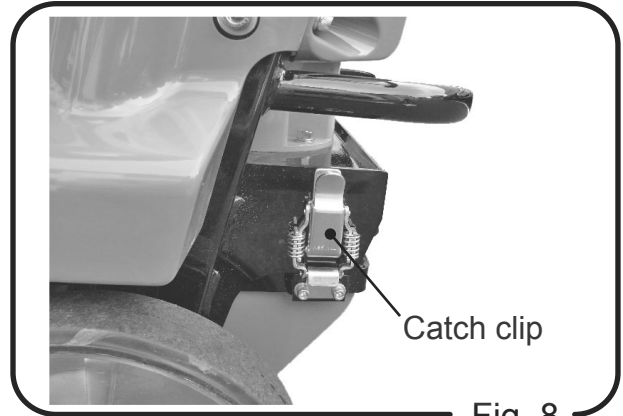
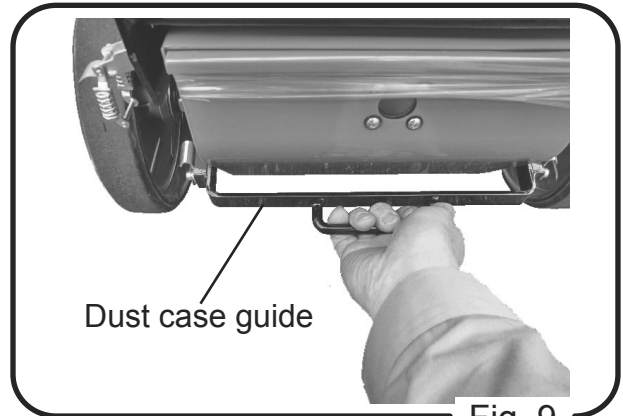

Fig. 8
Fig. 9
- B. Remove the catch clips at both sides and lower the dust case guide until it stops. (Fig. 8, Fig. 9)